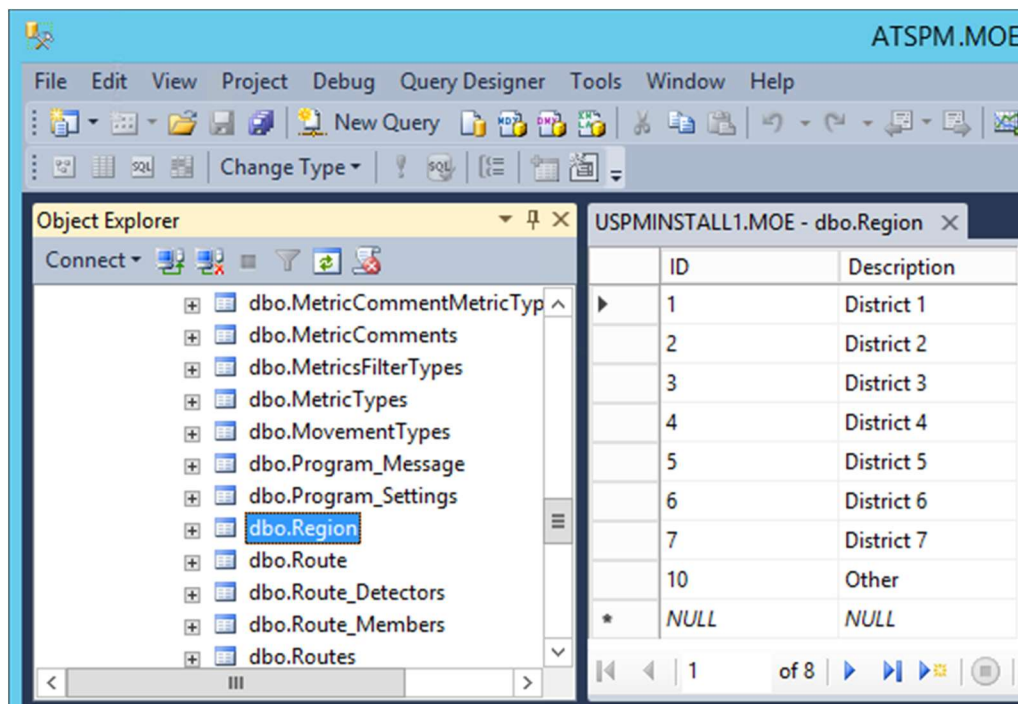

Figure 4: Set up regions in SQL Server Management Studio
1. Log in to the server using SQL Server Management Studio; expand the MOE database and the **Region** table (Figure 4).